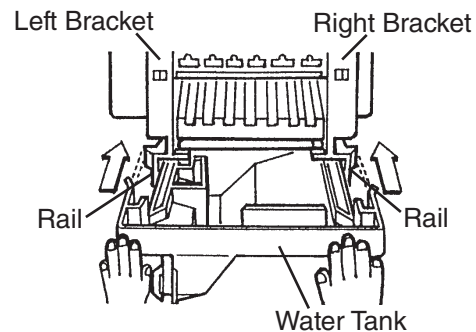

Fig. 44
14) Slide in the water tank along the rails at the bottom of the left and right brackets until it locks into place. See Fig. 44.